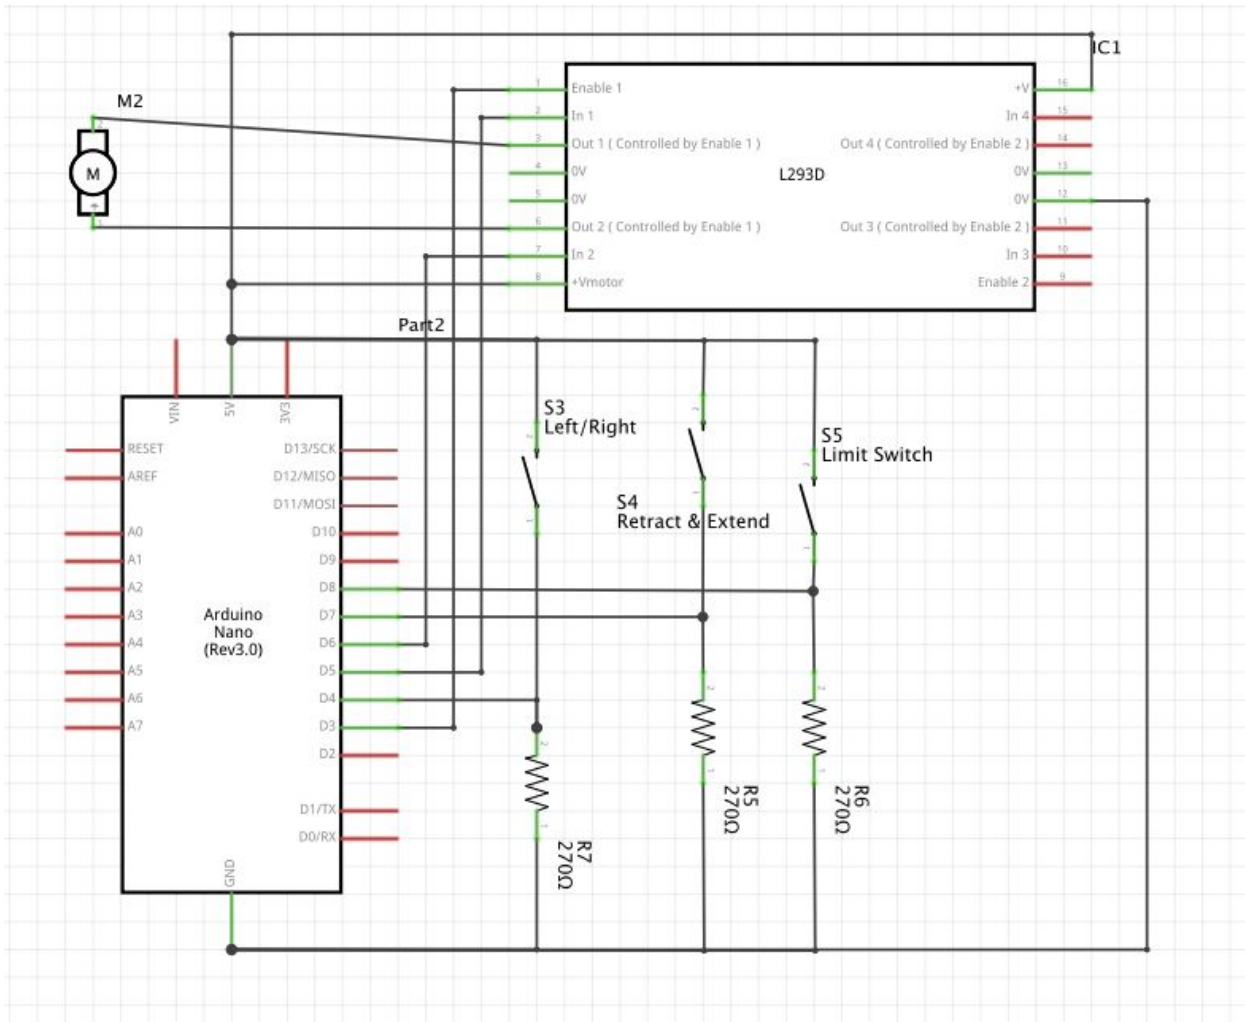
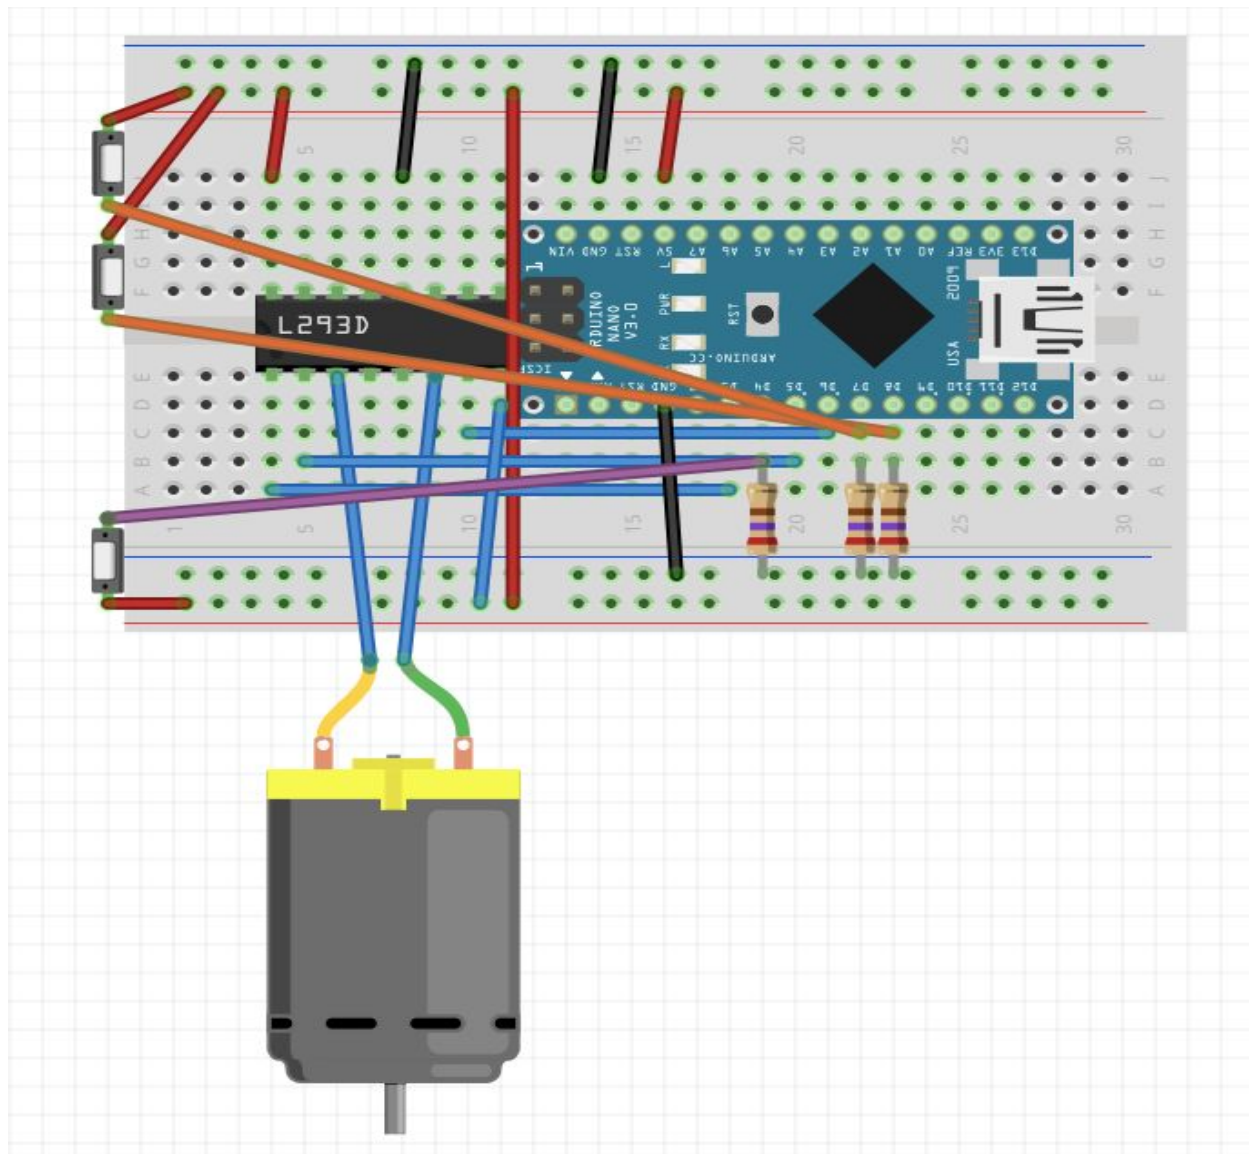

Figure 1-Schematics of the Circuits
Figure 2-Breadboard wiring layout of the circuit
- 2) Wire the circuit following the schematics (Figure 1) or the breadboard wiring layout (Figure 2). A wired circuit should look like something shown in Figure 3. The following steps of wiring your circuits are provided for reference.
- j) Plug the wires of the button jack and the toggle switch to the corresponding positions based on Figure 1 and Figure 2.
15) Once you are done with the **Mechanical Part** assembly, plug the motor wires and the limit switch wires to the breadboard as indicated in Figure 1 and 2.